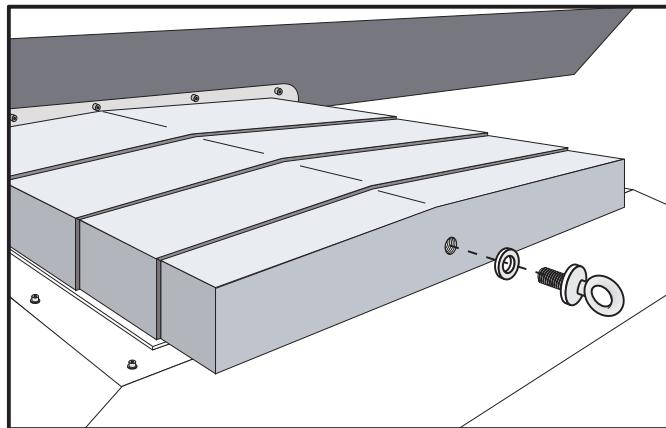

Fig. 1.9-1 Eyebolt mounting location for VF-0, VF-1, and VF-2.
1. Place a washer on the 5/8"-11 X 1-1/4" eye bolt and mount it to the front Y-axis way cover, as shown in figure 1.9-1. Hand tighten and orient the bolt **vertically** as shown.